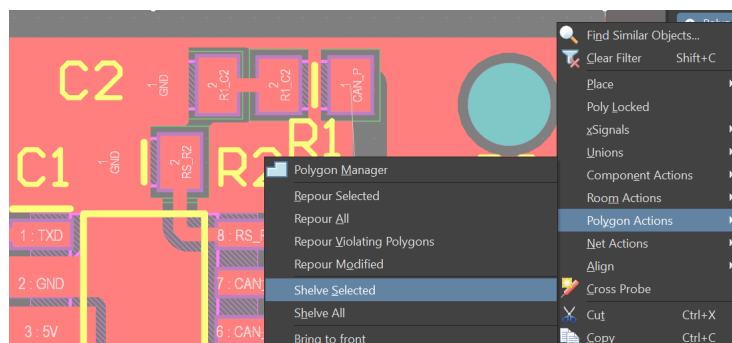

Figure 42: Screenshot showing how to shelve a polygon
- If you are ever trying to adjust traces but a polygon you poured is getting in the way, don't delete the polygon, just shelve it! To shelve a polygon (putting it away for later), simply right click, select **Polygon Actions** → **Shelve Selected**, as shown in Figure 42. This removes your polygon and holds it in the polygon manager until you are ready to restore it.